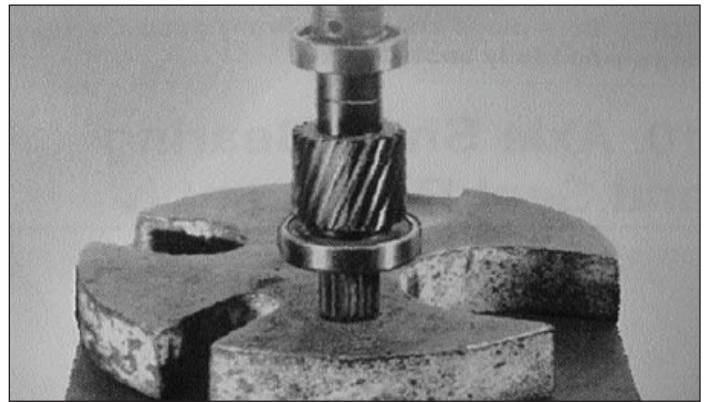

Figure 6-50. Installing Bearings on Input Shaft
1. Prior to installing, wipe new O-rings with SAE 30 weight oil. Install one O-ring (14) into outer input shaft (12) bearing bore. Install two O-rings (14) into intermediate shaft (9) bearing bores and two O-rings (10) onto intermediate shaft and gear assembly.
2. Press inner and outer bearings (13, 15) on input shaft (12) until seated against bearing shoulders (Figure 6-50).
3. Install new O-ring (14) into bearing bore of input shaft (12).